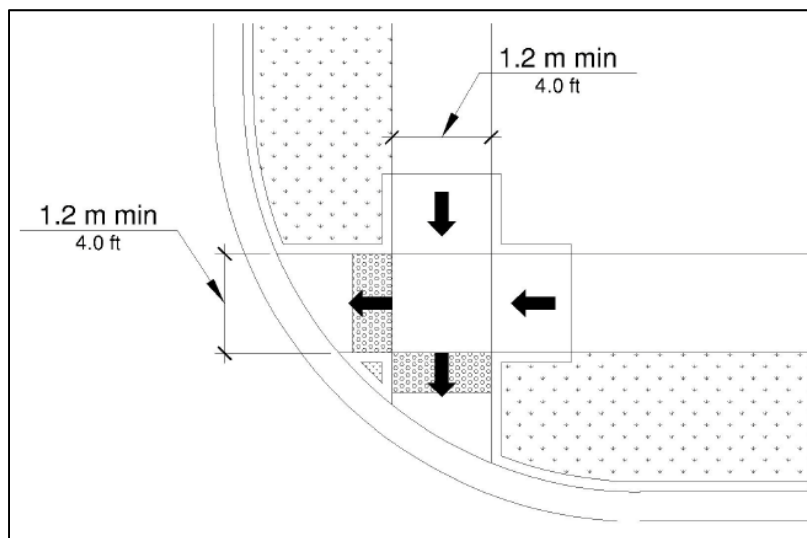

Figure 4 - Curb Ramp Run Clear Width
- Curb ramp run clear widths (excluding flared sides) are 5 ft. minimum (see **Figure 4**). *PROWAG R304.5.1; TDOT Ped Standards*